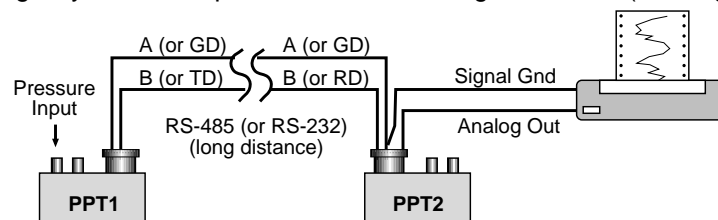

Figure 4.12—Sensing Remote Analog Pressure
**First**, the internal analog-to-digital converter integration time may be controlled over a range of 1 sample every 12 seconds up to 120 samples per second. This is controlled using the 'Integration' (I=) command. The integration time is used to control the A/D integration cycle that allow noisy pressure inputs to be filtered, or averaged, over a selected period of time. See Figures 4.12 and 4.13. The integration time can be set within a range of 1 to 120 samples/sec using the I=Rn form or a range of 100msec to 12 sec/sample using the I=Mn form. The values for 'n' range from 1 to 120 for both the rate (Rn) form and the millisecond (Mn) form.
Two PPTs can be used to sense pressure at one location and drive the analog pressure output at a remote location without a host processor. For example, a strip chart recorder or other analog input device, is being used to monitor a pressure point in a remote location. If the analog signal is run between locations, it will be subjected to electrical noise, line interference and connector electrical losses. The pressure signal would require shielding, single point ground connections and line filtering. A solution to eliminate the effects of line losses and noise sources would be to transmit the pressure information digitally to the strip chart recorder using two PPTs (see Figure 4.12).